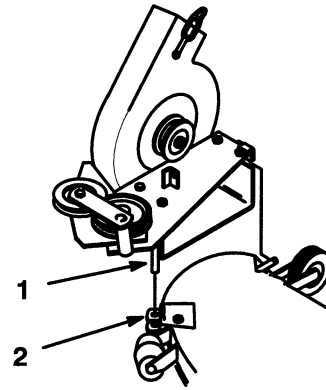

Figure 14
14. Insert pivot pin on blower into pivot support bracket on mower (Fig. 14).